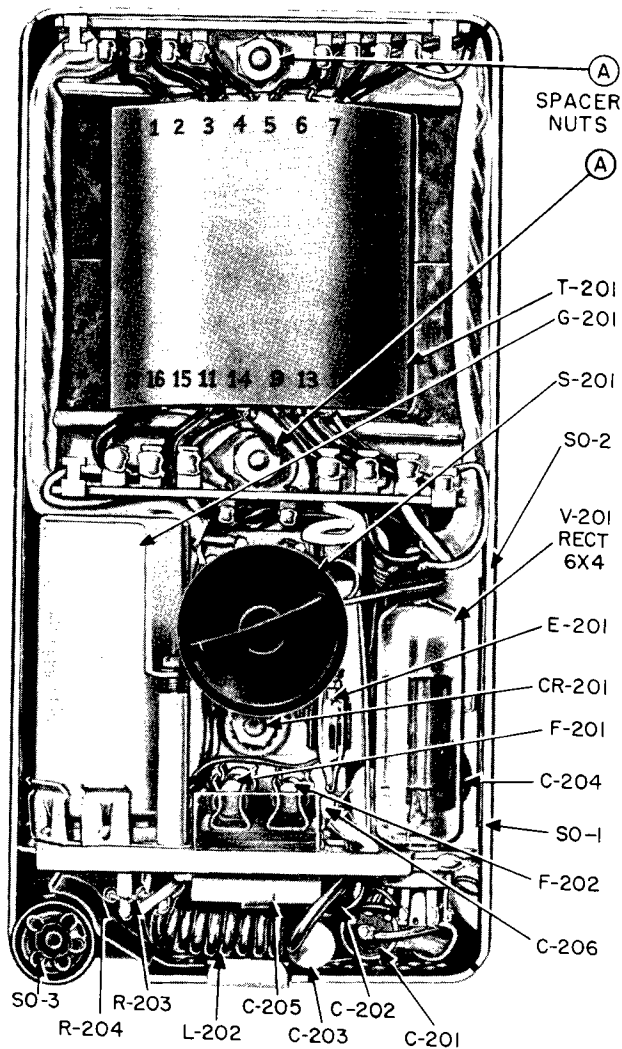

Figure 22. Power Supply RP-6, parts location.
(See Figure 22)
- b. Remove the hex spacer nuts (A, Figure 22).